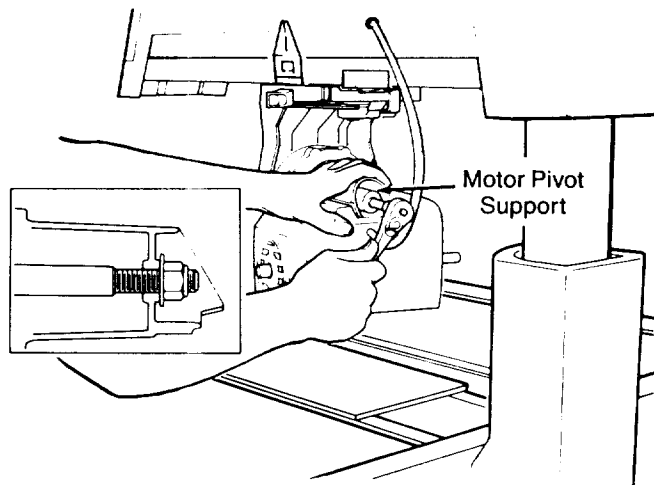

Fig. 15
7. Remove the lock nut and flat washer from the *motor pivot support*. (Figure 15)